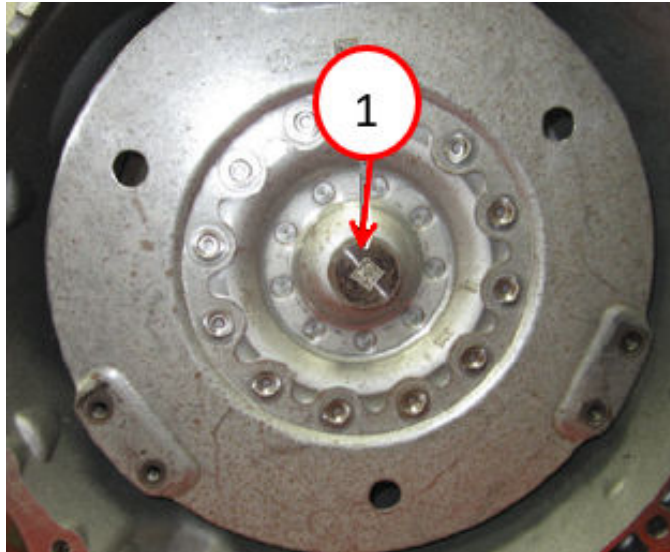

Fig. 56
80. Install the torque converter Fig. 56 Refer to the detailed service procedures available in DealerCONNECT/Service Library under: Service Info> 21 - Transmission and Transfer Case/Automatic/Torque Converter/Installation.